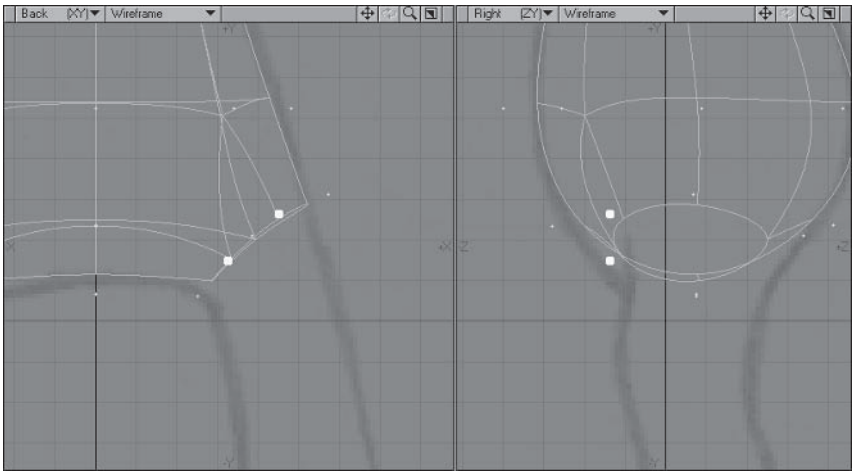

Figure 3.2-9. Adjust the points.
11. Turn Symmetry back on and select the two points shown in Figure 3.2-9. **Drag** the points away from each other in the Back (XY) viewport and line them up vertically in the Right (ZY) viewport.